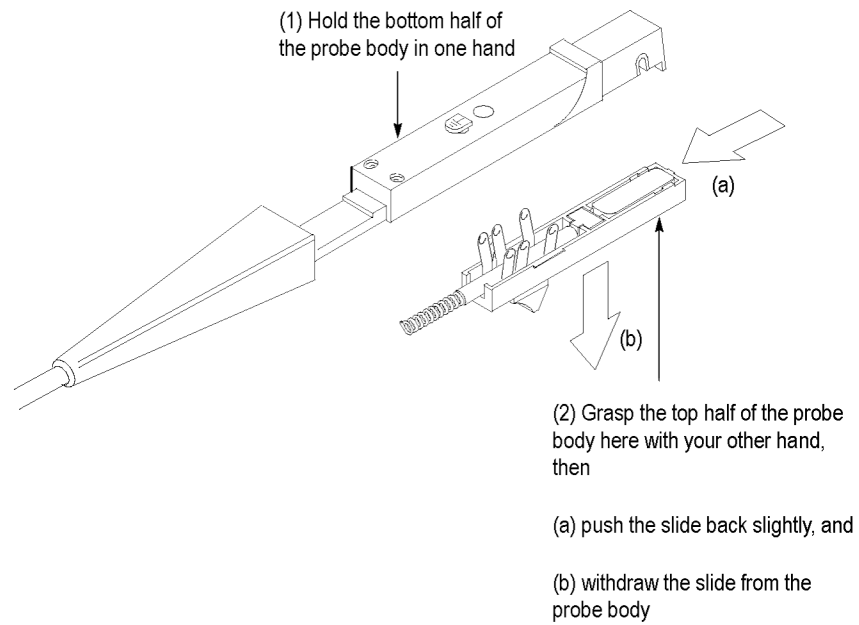

Figure 31: Removing the probe slide
5. Turn the probe upside down, push the slide back slightly, and remove the slide. (See Figure 31 on page 74.)